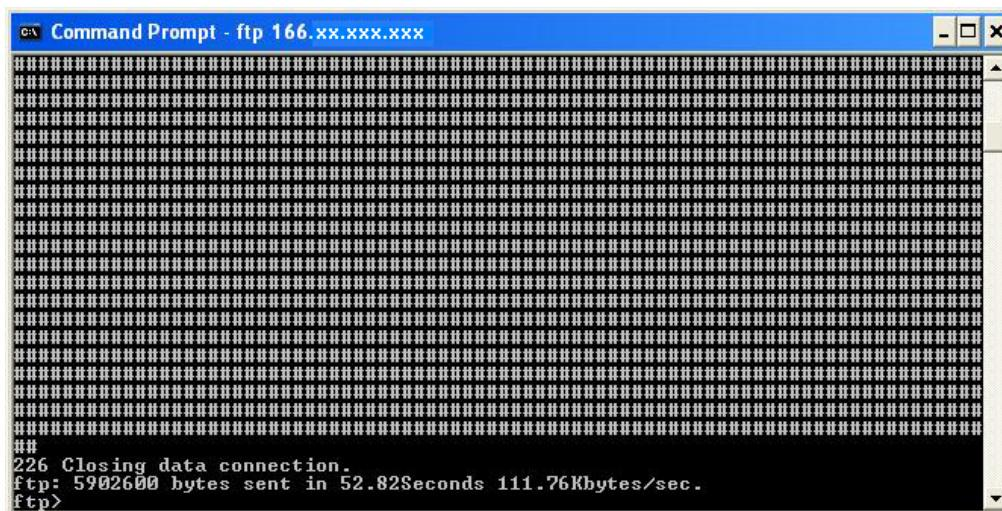

Figure 99. Closing Message
5. When the upgrade finishes, the closing message displays (see Figure 99).